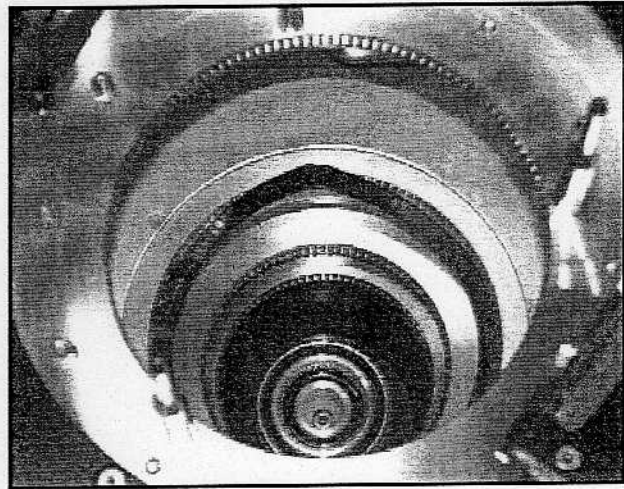
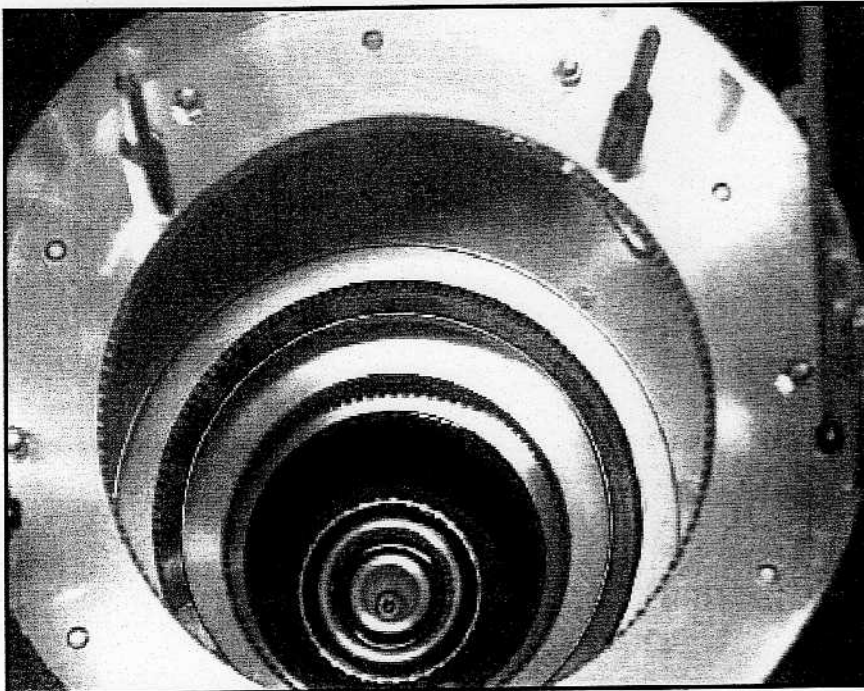

Fig. 32b
Fig. 32c
3. Carefully place carbon gasket onto surface 'X', working around the circumference of the gasket allowing it to slip under the contact fingers so that the internal diameter of the gasket matches the internal of the flange. To ensure concentricity the gasket is a tight fit on its outside diameter. As a result, the last part of the gasket may kink up as shown in Fig. 32b. The gasket may be distorted to allow the remaining part to fit under the contact fingers. Once in position, the gasket must be flattened out to ensure that no lumps and kinks remain (see Fig. 32c).